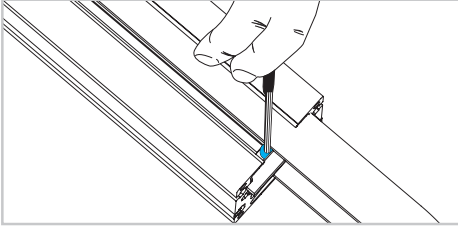

Fig. 12
- 12) Remove the safety block (Fig.12).